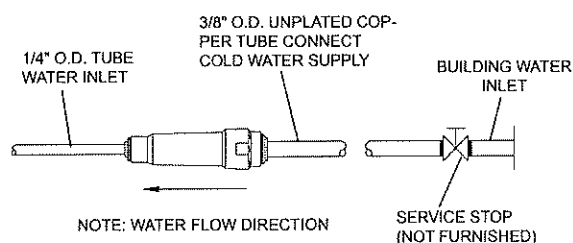

FIG. 7
5. Connect drain and water supply lines to the freeze resistant fountain. Refer to Figure 1 for component positions. Inline strainer must be used on the inlet water line. See Figure 7.